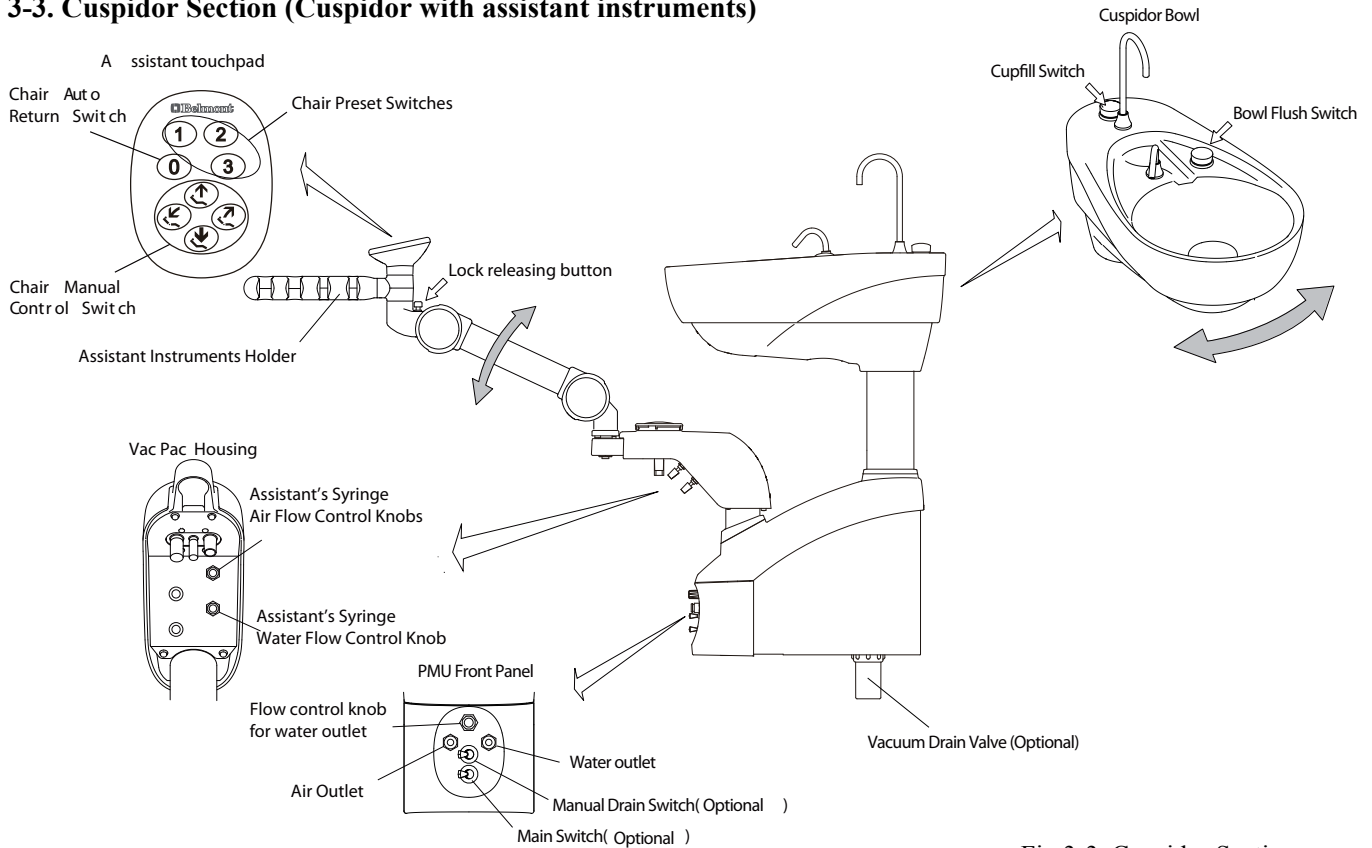

Fig.3-3 Cuspidor Section
(1) Assistant Touchpad (Fig.3-3)
(2) Vac Pac Housing (Fig. 3-3)
(3) Vacuum Pack height adjustment(Fig. 3-3)
(4) Front Panel (Fig. 3-3)
A. Water Outlet with flow control(Fig.3-3)
B. Service Water Outlet Control Knob (Fig.3-3)
C. Service Air Outlet (Fig.3-3)
D. Manual Drain Switch (Optional) (Fig. 3-3)
E. Main Switch (Optional) (Fig. 3-3)
(5) Cuspidor bowl (Fig. 3-3)
(6) Cuspidor bowl (Fig. 3-3)